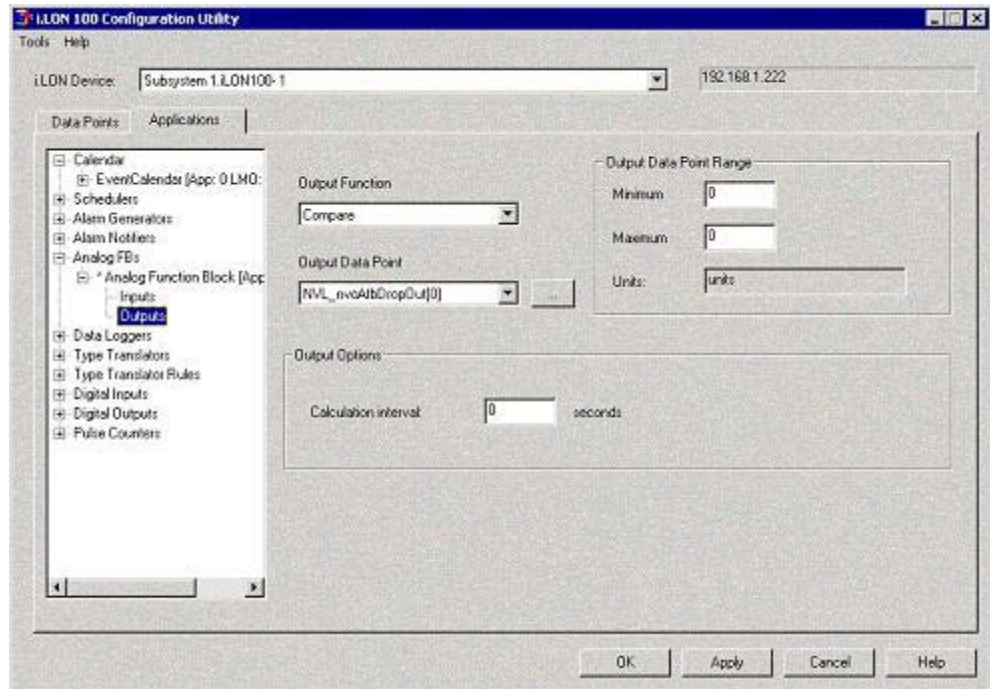

Figure 11.15 Outputs Dialog
6. Click **Outputs** under the analog function block on the Applications list. The **Outputs** dialog opens, as shown in Figure 11.15.